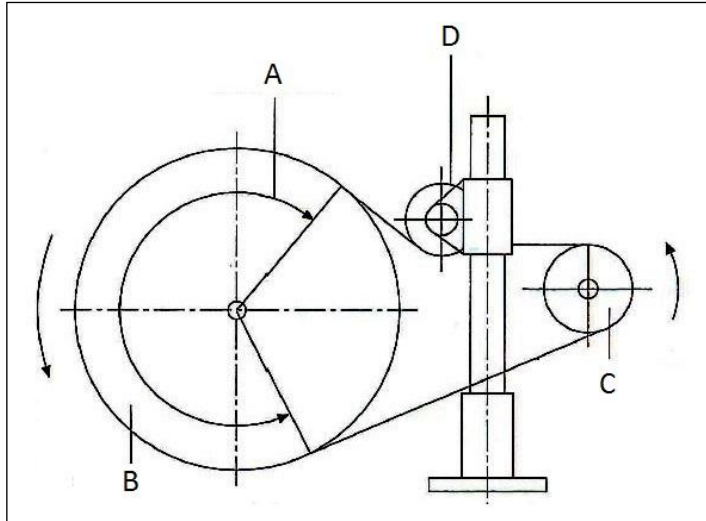

FIGURE 2
- 4.1 Figure 2 below shows a representation of a V-belt drive. Label the components by writing the answer next to the letter (A–D) in the ANSWER BOOK. (4)